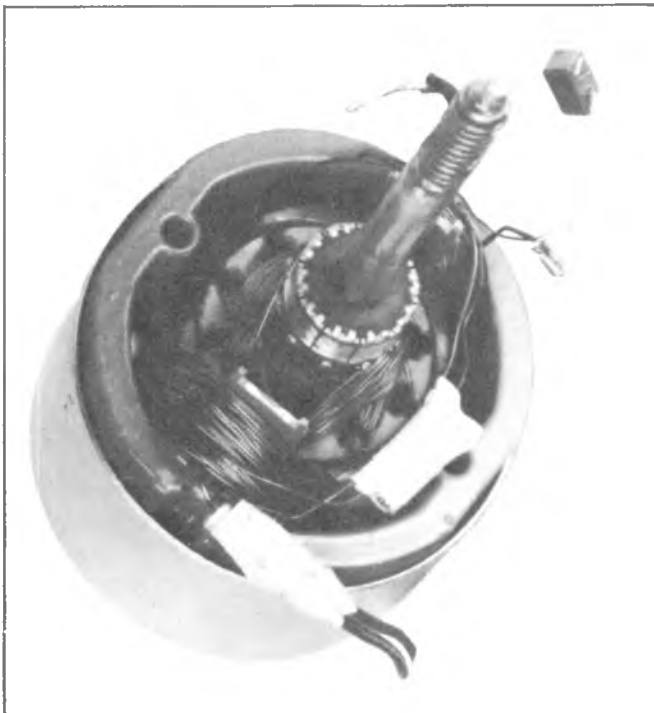

Fig. 8-33-Armature Installation
4. Assemble armature in case and field assembly (fig. 8-33).